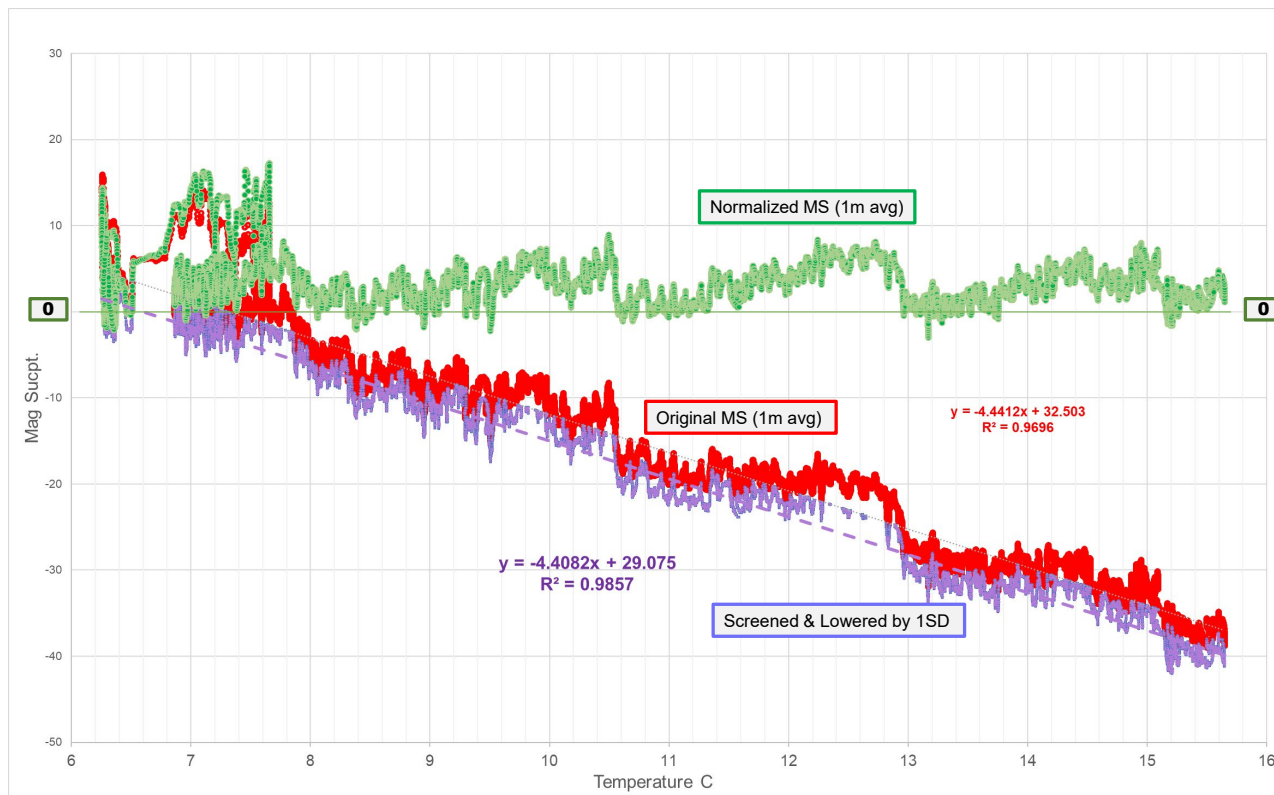

Figure 7 Magnetic Susceptibility Temperature Normalization Process
- to correct for temperature influence on the MS data (Figure 7):
- the MS data between the bottom of the casing and the Precambrian (averaged over 1m to minimize small scale geologic and instrument variability) were cross-correlated to temperature (median filtered over 1 m) and a linear relationship established (Figure 7 red)
- to establish a lower bound (minimize geologic influence) (Figure 7 purple),
- The normalization was applied to the original data (1m average, red) to provide a MS log which honours the variability of the raw data and relative values while minimizing temperature influences with a nominal zero lower limit. (Figure 7 green).